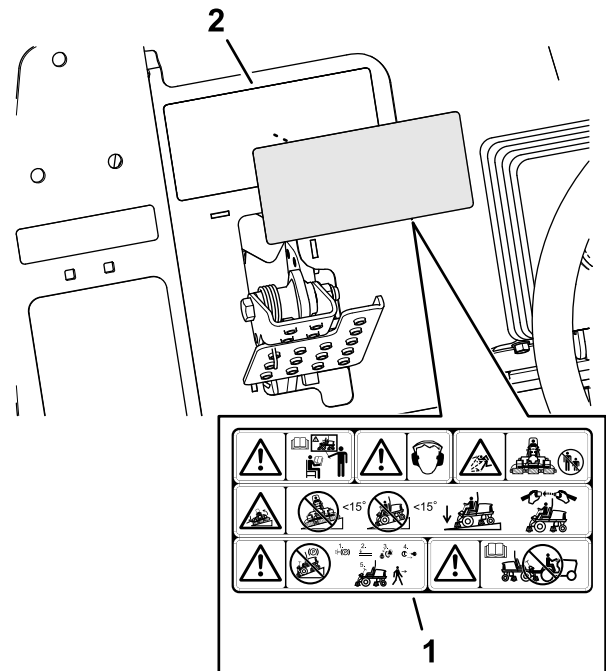

Figure 36
1. Use rubbing alcohol and a clean rag to clean the surface of warning decal 133-2930, and allow the decal to dry (Figure 36).